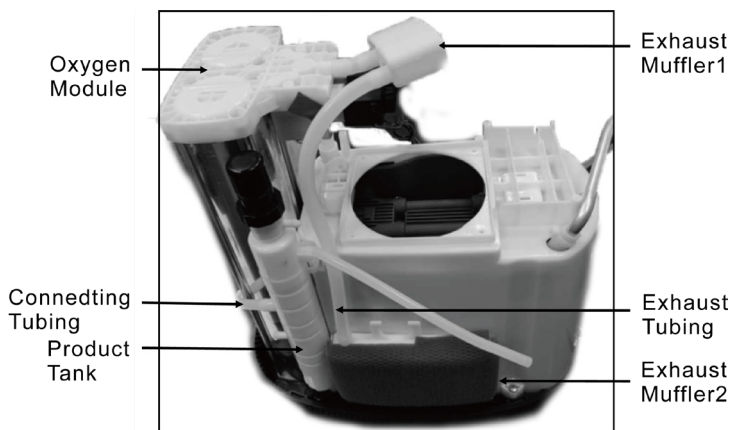

Figure 21
- ▶ Pull out the exhaust tubing, rotate and remove the exhaust muffler1 and exhaust muffler2. (Figure 21)
- ▶ Pull up and remove the product tank, then pull out the connecting tubing. (Figure 21)
- ▶ Pull out the connecting tubing, then remove the oxygen module. (Figure 21)